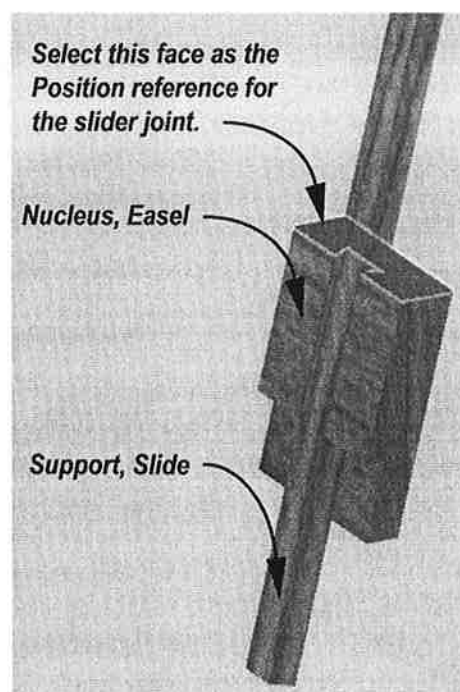

Figure 16-36
1. Create a Slider as-built joint between the Support, Slide and Nucleus, Easel components, as shown in Figure 16-36.
2. For the *Position* reference, select the face shown in Figure 16-36. This defines the sliding direction. Once the *Position* reference is selected, a sliding animation is displayed.